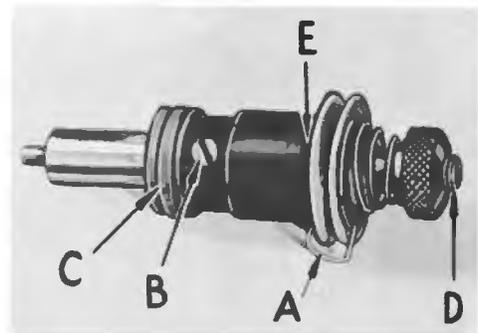

Fig. 17
Test check spring tension (A, Fig. 17). There should be enough tension to assure a good returning snap when spring is depressed and released. Should it require adjusting, loosen set screw in the head located under arm and to the right of tension assembly, and remove tension assembly. Partially loosen tension post set screw (B) in tension post socket (C). Turn the tension post (D) counterclockwise until the check spring moves away from the upper stop (E) and has no tension on it. Turn the tension post (D) in a clockwise direction until the spring again touches the upper stop (E). Then, proceed further in the same direction until the desired tension is obtained. When correctly set, the tension post set screw (B) should be drawn up snugly, yet not forcefully. Further adjustment of the check spring tension can be made by inserting a screwdriver into the slotted end of the tension post (D) and turning in the required direction.